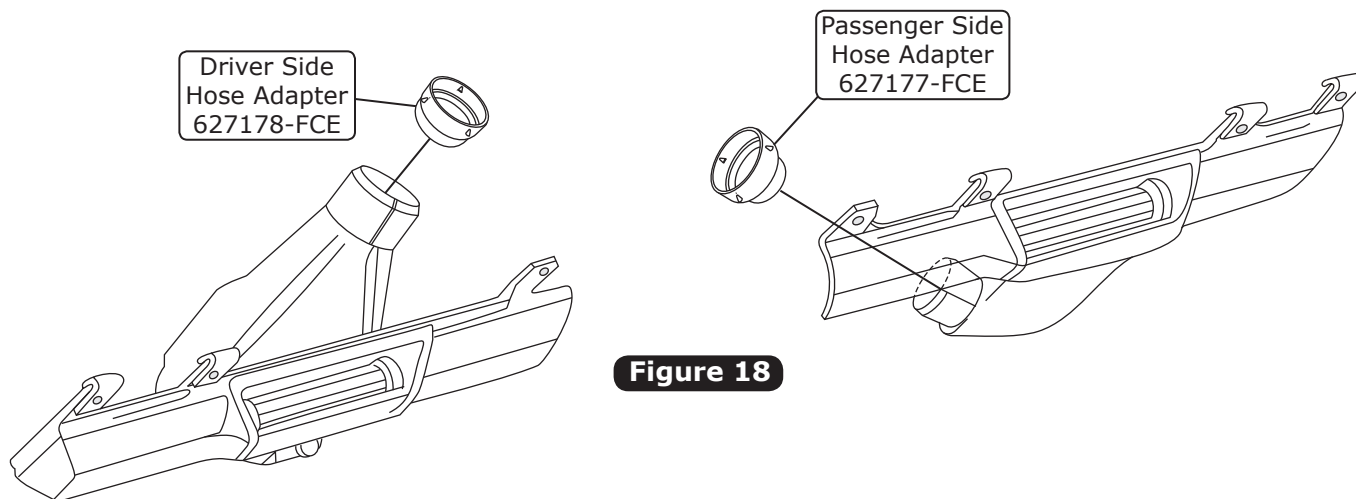

Figure 18
1. Install the hose adapters as shown in Figure 18, below.